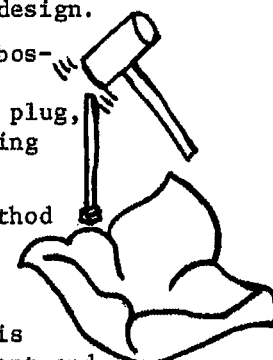

FIG. 4.
Step 4. Turn the leather over, right side up, and re-bevel the outlines of the design; Figure 4. This procedure forces the plug into position.